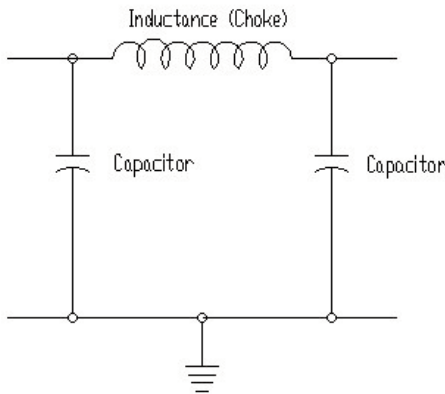

Fig.3: A filter like this is commonly used to block EMI in a conductor. It consists of capacitors and an inductor.
itance (in microfarads, mfd), will offer little or no resistance to alternating currents (AC). So, a capacitor of the right size can be placed in the circuit connected from the noise-carrying conductor to ground, and the interfering signal, which is alternating current, is shorted to ground and eliminated. A choke (inductance or coil, L) is the opposite of the capacitor; it offers insignificant resistance to direct current, but depending on its inductance (in henrys, h), can offer extremely high resistance to alternating currents. So, a choke of the proper size inserted in series with the noise carrying conductor, in effect, blocks the EMI. The most commonly used filter is the low-pass, pi-network filter consisting of both capacitors and an inductor (Fig. 3). Prepackaged combinations of LC filters designed for specific applications are available from you local marine electronics dealer for a variety of EMI conditions.